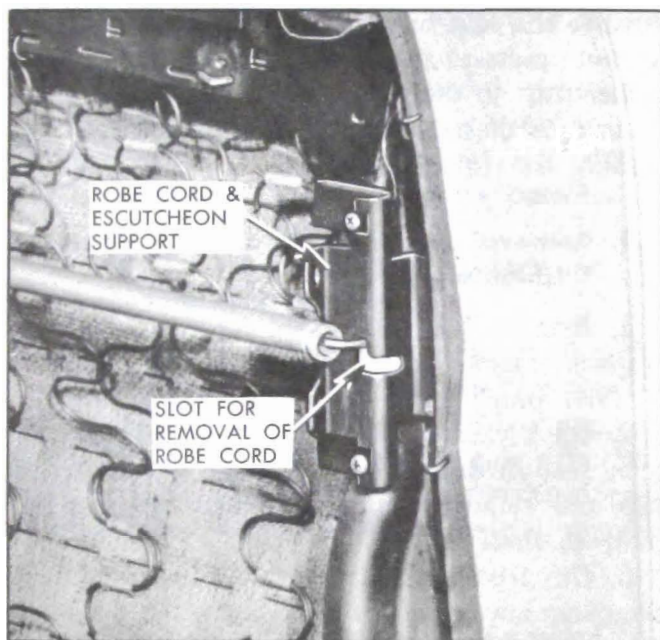

Figure 13-235—Robe Cord Attachment
2. At right side of robe cord move wire loop downward and remove through slot in robe cord support. At left side of robe cord move wire loop upward and remove through slot in robe cord support. See figure 13-235.
of left seat back move wire loop of robe cord upward and remove through slot in robe cord support. See figure 13-235.